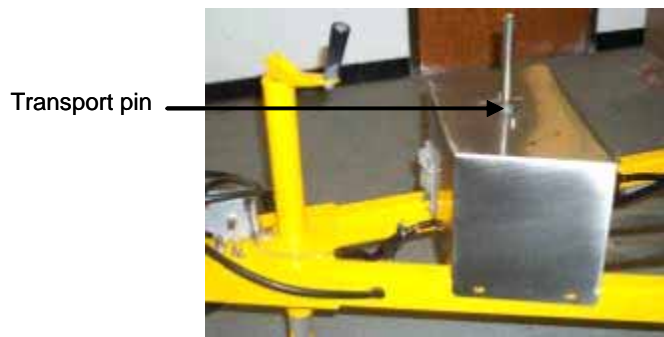

Figure 106. Raise/lower cover.
3. Place stainless steel cover over guide rod (figure 106). Make sure the pin is in place during transport.